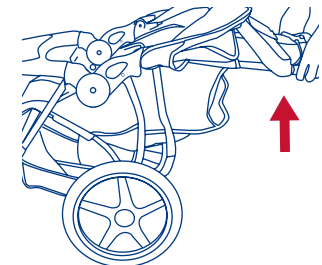

Fig. 21b
• Lift up on the stroller handle with both hands until the stroller frame is locked in the open position (Fig. 21b). The stroller has spring-loaded latches on both sides of the frame. Test that both latches are fully engaged prior to placing child in the stroller.